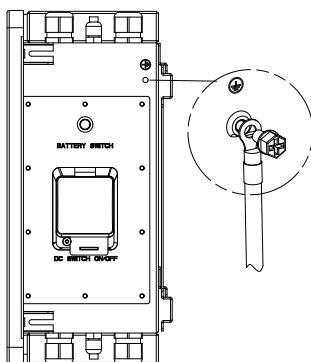

Figure 4.10 Ground connection
Opening-closing current transformer (CT) is adopted. It can be opened by pushing the buckle by its side. Lead the Live of the Mains through the CT. Tighten up the CT buckle. (Note: both CT directions point to the load side.) For wiring, refer to figure 4.10